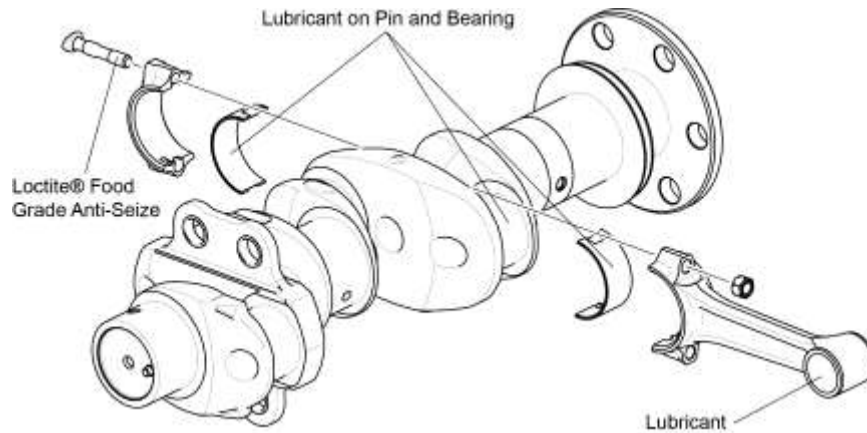

Figure 50
- (1) Ensure that all of the connecting rods have the same weight class letter.
- (2) Apply specified lubricant to the connecting rod bearings (per the latest revision of Service Instruction No. SI-1059) in Figure 50. Different lubricants are used on the connecting rod bearings.
- (6) Apply Loctite® Food-Grade Anti-Seize Lubricant or equivalent to the bottom two or three threads of the new connecting rod bolts (Figure 50). Wipe away excess lubricant with a clean, lint-free cloth.
- (7) Apply engine oil mixture to the crankpin journals.
- (8) Install each connecting rod pair (with the bearing inserts installed) on their respective crank pins on the crankshaft (where the numbers on the connecting rods and bearing locks point down - toward the oil sump.)